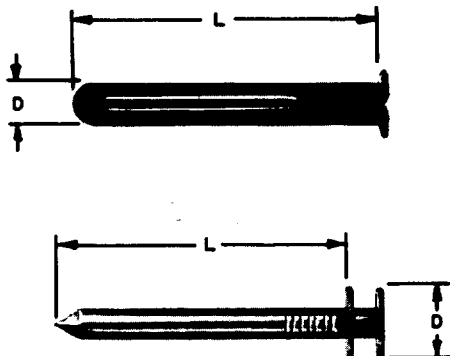

Fig. 2 - C Drive Anchor
1.04 C drive anchors (Fig. 2) are used for temporary installations. This anchor is supplied with a double-headed nail to facilitate removal.